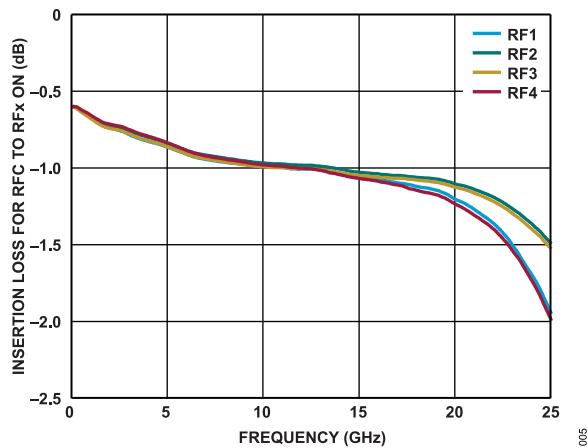

Figure 5. Insertion Loss for RFC to RFx On vs. Frequency
6. The ADRF5050-EVALZ is expected to have an insertion loss of 1.20 dB at 20 GHz. See the expected results in **Figure 5**.